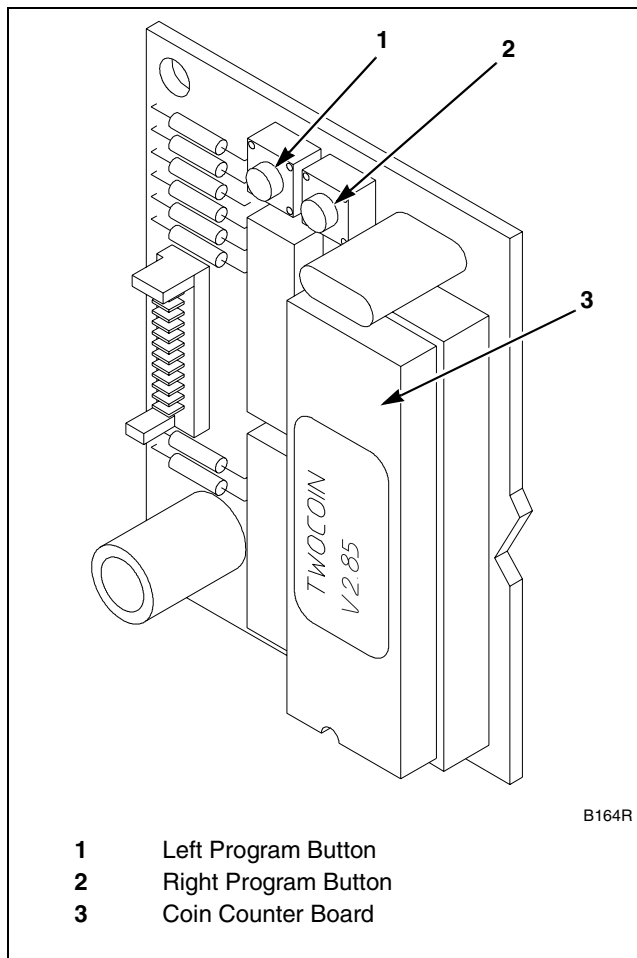

Figure 17
Verify the software version to be a single-coin acceptor or a dual-coin acceptor by checking the label on the coin counter board located in the control module behind the coin meter face. Refer to *Figure 17*. For single-coin acceptors, the software version identification code is “ONECOIN V2.62”; for dual-coin acceptors, the code is “TWOCON V2.85”.
1. Locate the two buttons above and to the left of the microprocessor. Refer to *Figure 17*.